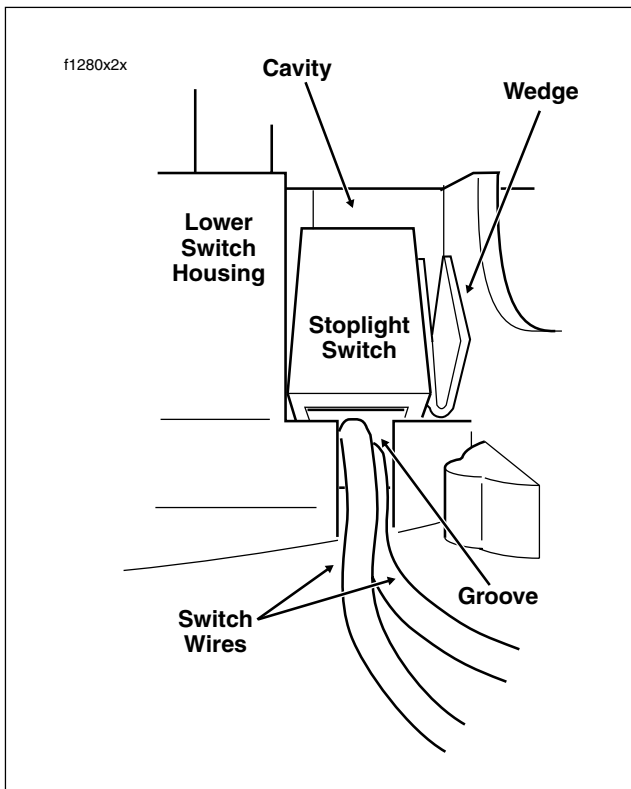

Figure 8-103. Install Stoplight Switch
6. Push down on switch so that it bottoms against housing and wires run in groove at base of cavity. With the concave side facing outward, insert wedge between switch and outboard side of switch housing. See Figure 8-103.